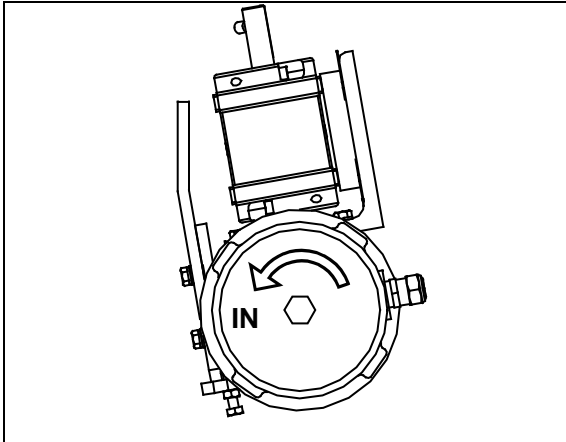
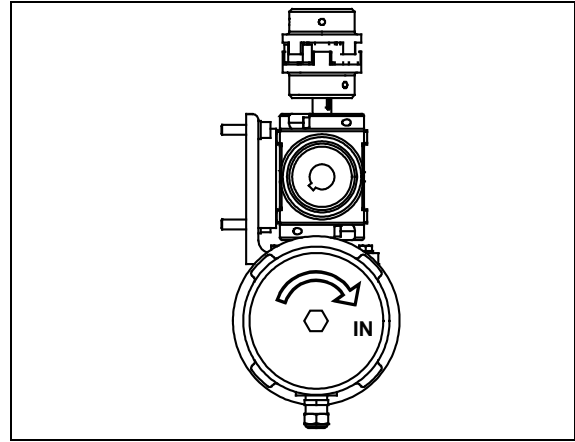

FIGURE 16 : DIRECTION OF ROTATION FOR RETRACTING (FRONT)
FIGURE 17 : DIRECTION OF ROTATION FOR RETRACTING (REAR)
5. Rotate the slide-out motor with a manual ratchet or any power drill until the slide-out comes to its closed position (refer to figure 16 for the front slide-out and to figure 17 for the rear slide-out). **Slow down on the closing speed as the slide-out approaches its closed position, in order not to overshoot it, which may damage the mechanism.**